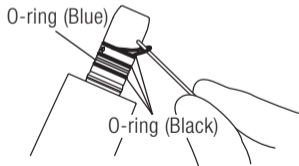

Figure 10.
If a deteriorated O-ring makes it difficult to attach the handpiece or causes water or air to leak, replace the O-ring. Using a needle or other pointed tool, remove defective O-rings from the motor insert section, and fit new O-rings into the O-ring grooves (Figure 10.).
- The blue O-ring is thinner than the three black O-rings. When inserting new O-rings, make sure they are inserted in the correct grooves as shown in Figure 10.